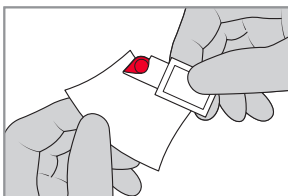
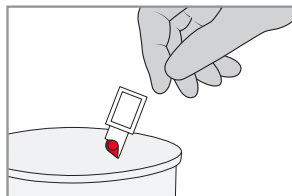

FIGURE 3-7
FIGURE 3-11
- d) To complete the measurement follow steps *g-l* and *FIGURE 3-7* to *FIGURE 3-11* in section 3.1 *Capillary blood*. Make sure to start the measurement as soon as possible but no later than 10 minutes after filling the Cuvette.